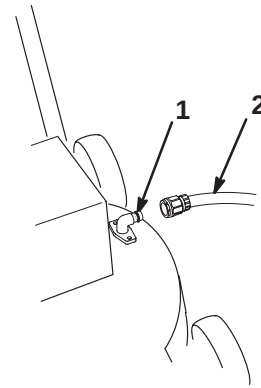

Figure 17
3. Attach the coupling to the lawn mower washout fitting (Fig. 17).